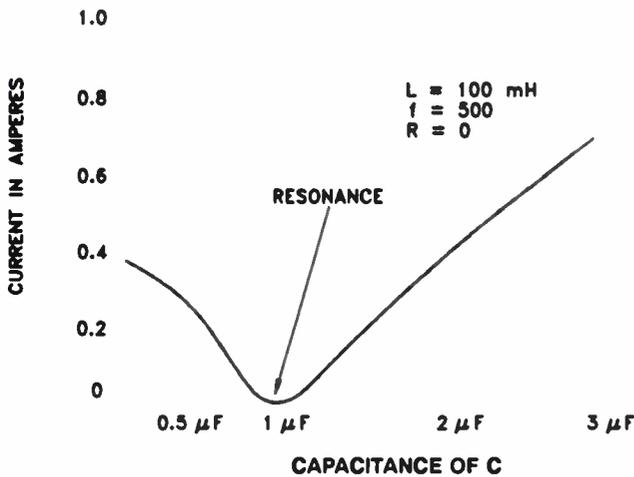

Figure 13. How the line current varies when the capacitance of the capacitor in a parallel resonant circuit is varied.
**Varying C.** At resonance, the inductive reactance is equal to the capacitive reactance in the parallel resonant circuit, just as in a series resonant circuit. What if the generator shown in Fig.11 had a frequency of 500 Hz and the coil had an inductance of 100 millihenrys? Figure 13 on the next page shows the effect on line current of different capacitor values. When capacitance is zero, the only limit to the flow of current is the coil impedance and coil ac resistance.